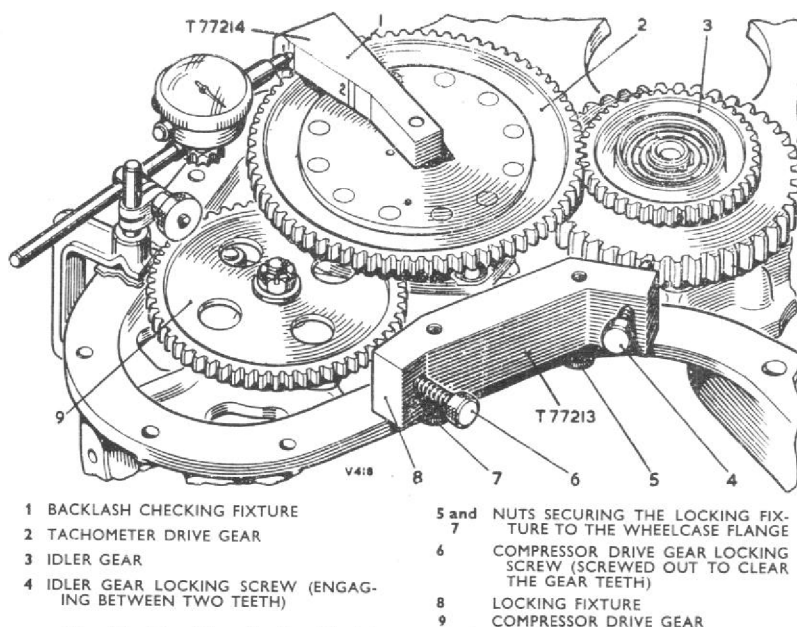

Fig. 18. Checking the backlash between the large tachometer and the small idler gears
- Checking the backlash between the large tachometer gear and the small idler gear (fig. 18)**
- This diagram illustrates the components of a backlash checking fixture, shown in an exploded view. The parts are numbered 1 through 9, with some numbers (5 and 7) appearing together. The assembly includes a tachometer drive gear (2), an idler gear (3), and a compressor drive gear (6). A locking screw (4) is used to secure the idler gear. A locking fixture (8) is used to secure the compressor drive gear. The entire assembly is mounted on a wheelcase flange (9). The diagram also shows a tachometer (1) and a locking fixture (8) with a locking screw (4) and a locking fixture (8) with a locking screw (4).